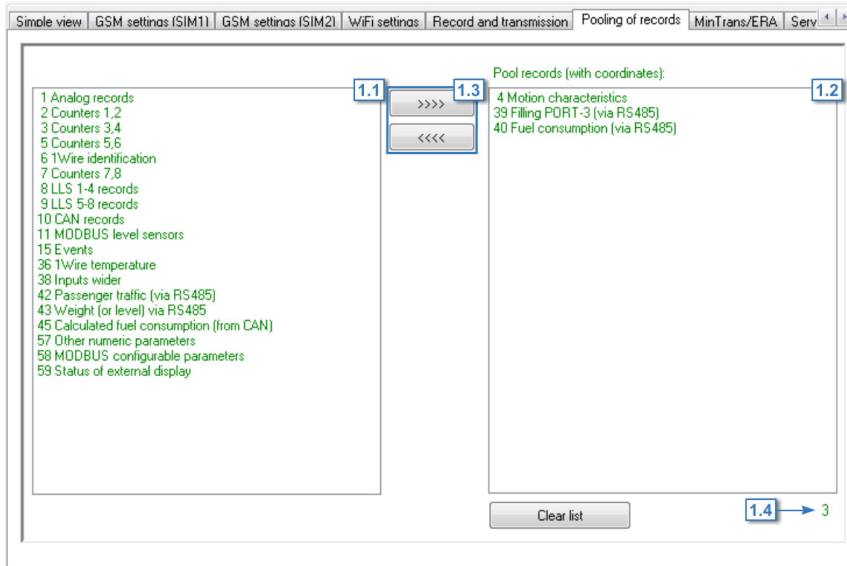

Fig.16. Pooling of records.
- select a record in the list on the left (Fig.16, i. 1.1)
- move the selected record to the group of pooled records (Fig.16, i. 1.2) using the button “>>>>” (Fig.16, i. 1.3);
To delete a record from the group of pooled data, select this record and press the button “<<<<” (Fig.16, i. 1.3).